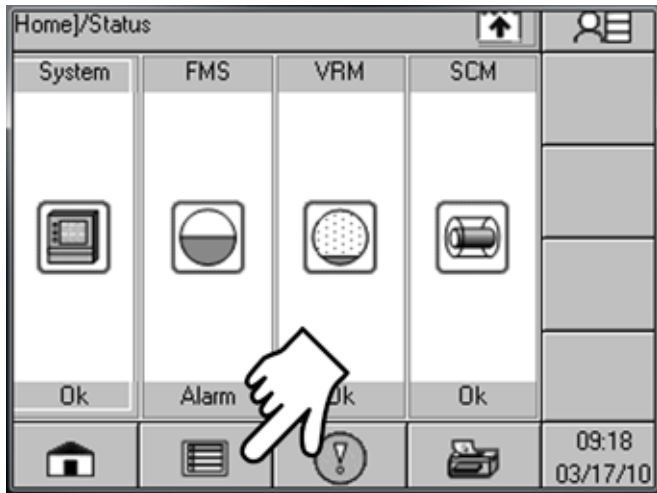

Figure 10: Select Main Menu
1. Once the tank gauge is on, press the Main Menu key on the LCD with the figure of a table (Figure 10).